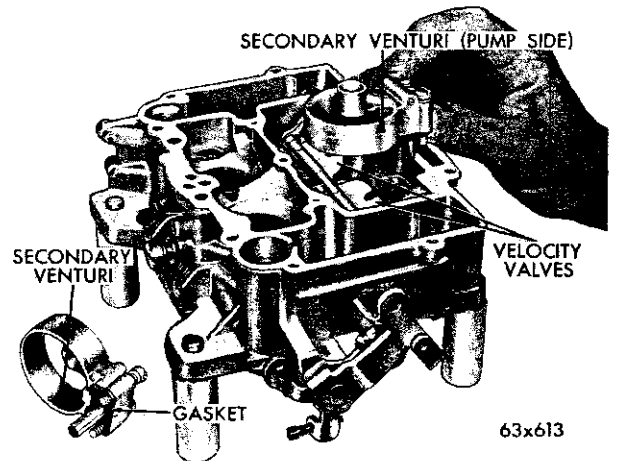

Fig. 66—Removing or Installing the Secondary Venturi
(4) Remove the screws that attach the secondary venturi to the main body. (These venturi are not interchangeable side for side, and it is suggested that the pump side venturi be marked for identification.) Remove the venturi, as shown in Figure 66. Discard the gaskets. (The pump side venturi is numbered 678. The opposite one, numbered 679.)
(7) Place new secondary venturi gaskets in position, then install the secondary venturi. (Refer to Fig. 66.) Install screws and tighten securely. Be sure each is located in its original place.